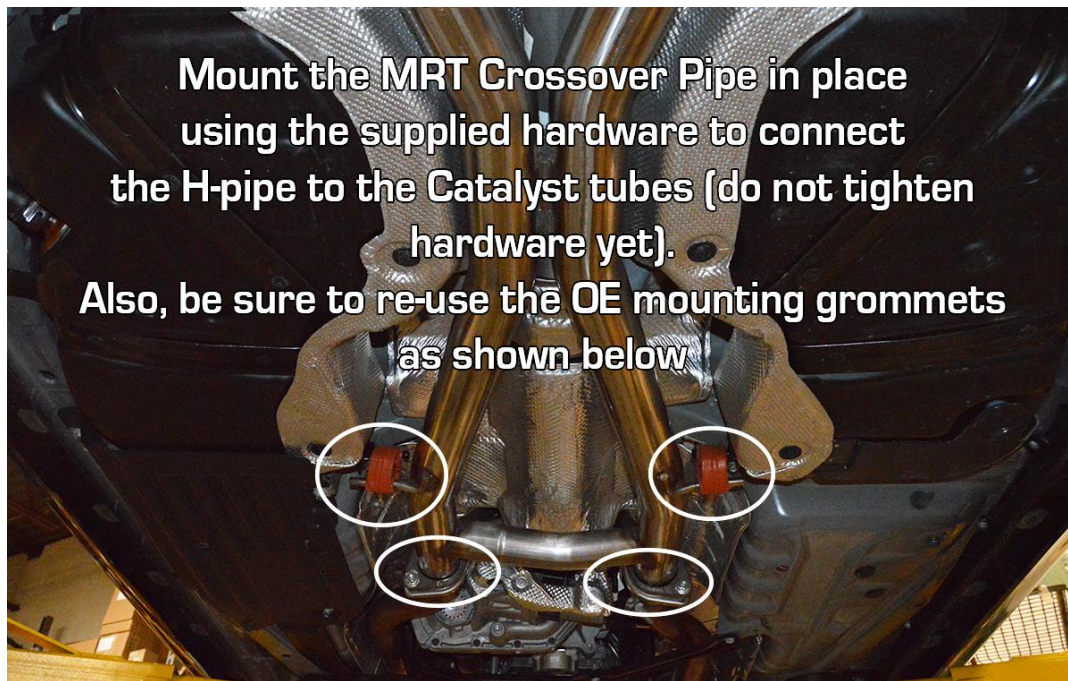

FIGURE 2
STEP 2: IMPORTANT! Loosen the factory bolts at the exhaust manifold collector where the front factory tube is connected. Do not remove the fasteners, just loosen them for fitment to the MRT H-pipe. Now, line the MRT H-pipe up with the OE Catalyst pipes. Note the hanging rods are welded to the **BOTTOM** of the H-pipe. (Fig 2)
STEP 3: Slide the MRT Hanging rods into the OE Mounting grommets. Once in place, use the supplied hardware to loosely mount the MRT Flanges to the OE flanges on the catalyst pipe. **DO NOT TIGHTEN YET.** (Fig 2)